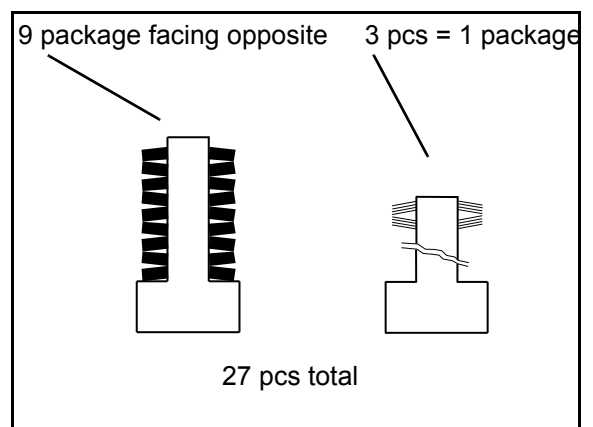

Fig. 8
- Replace all cup springs and mount them as shown in Fig. 8.